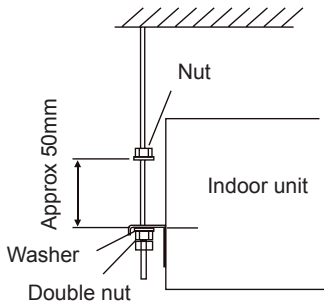

Fig. 3.5 Suspension bolts and nuts
- 1 Fix the suspension bolts and the nuts as shown in Fig. 3.5. Nuts are fixed by four bolts.